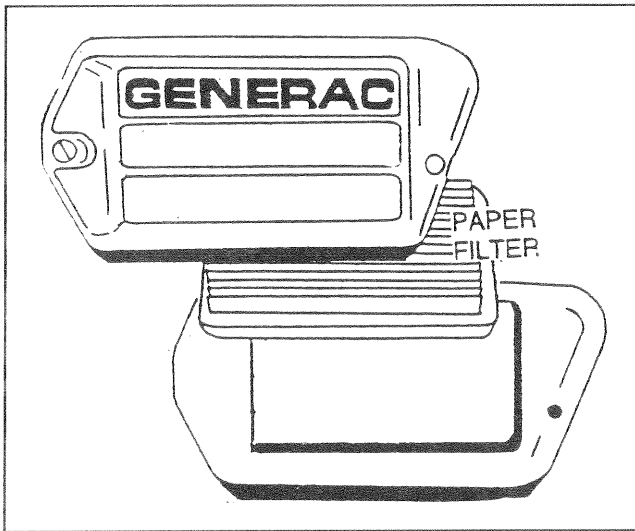

Figure 5 — Engine Air Cleaner Assembly
- Turn oil filter counterclockwise to remove (Figure 5).
**Paper Filter:** Once every 25 operating hours or once each year (whichever comes first), clean or replace the paper filter (Figure 5). Follow these steps: